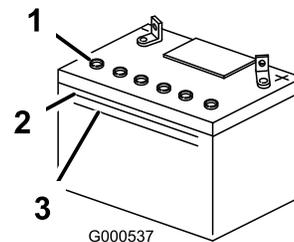

Figure 43
- Look at the side of the battery. The electrolyte must be up to the **upper** line (Figure 43). Do not allow the electrolyte to fall below the Lower line (Figure 43).
- Remove the vent caps from the battery (Figure 43).
- Slowly pour distilled water into each battery cell until the electrolyte level is up to the Upper line (Figure 43) on the battery case.
5. Wait five to ten minutes after filling the battery cells. Add distilled water, if necessary, until the electrolyte level is up to the Upper line (Figure 43) on the battery case.